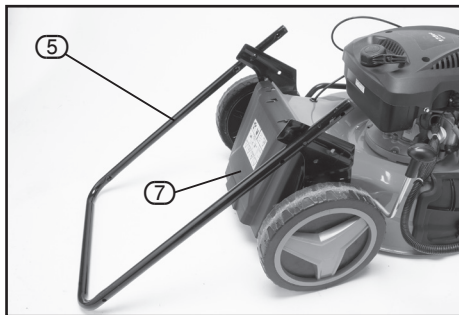

FIG. 1
8.1 ASSEMBLING THE HANDLE – FIGS. 1–4